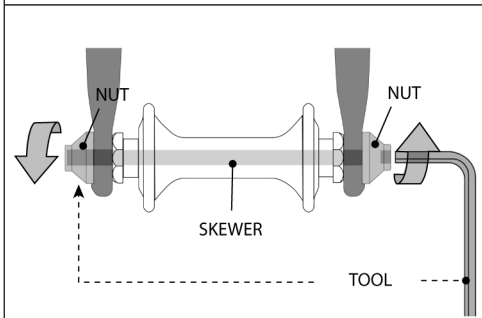

FIGURE 9
- A hollow axle with a shaft ("skewer") running through it which has a nut on one end and a fitting for a hex key, lock lever or other tightening device on the other (through bolt, fig. 9)